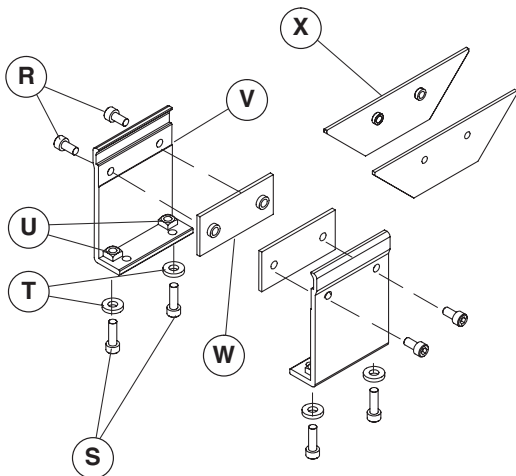

Figure 8
- Typical mounting bracket components (Figure 8)
- Attach clamp plate (Figure 8, item W or X) to stand mounting bracket (V) with two screws (R). Do not tighten screws.